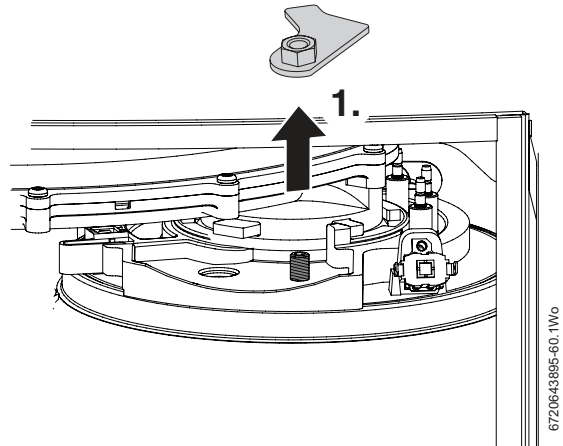

Fig. 81 Securing nut
1. Refer to figure 81 and undo the securing nut on the top of the heat exchanger and remove the retaining plate assembly.